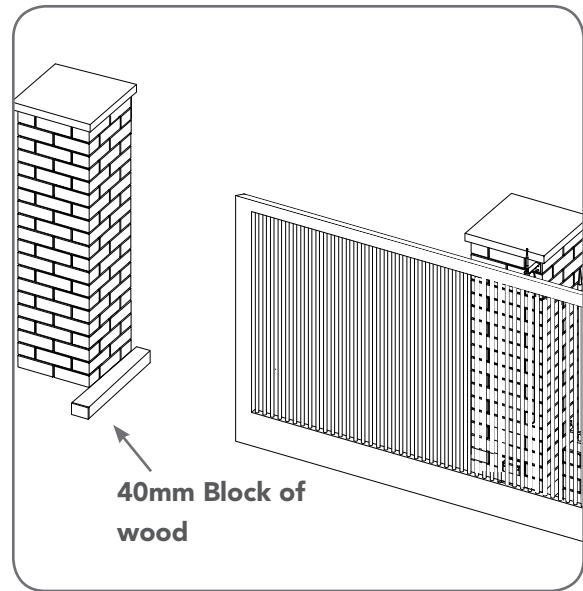

Fig 9.1
- Place a piece of timber approximately 40mm wide on the ground directly next to the closing pylon / fence (Fig. 9.1).